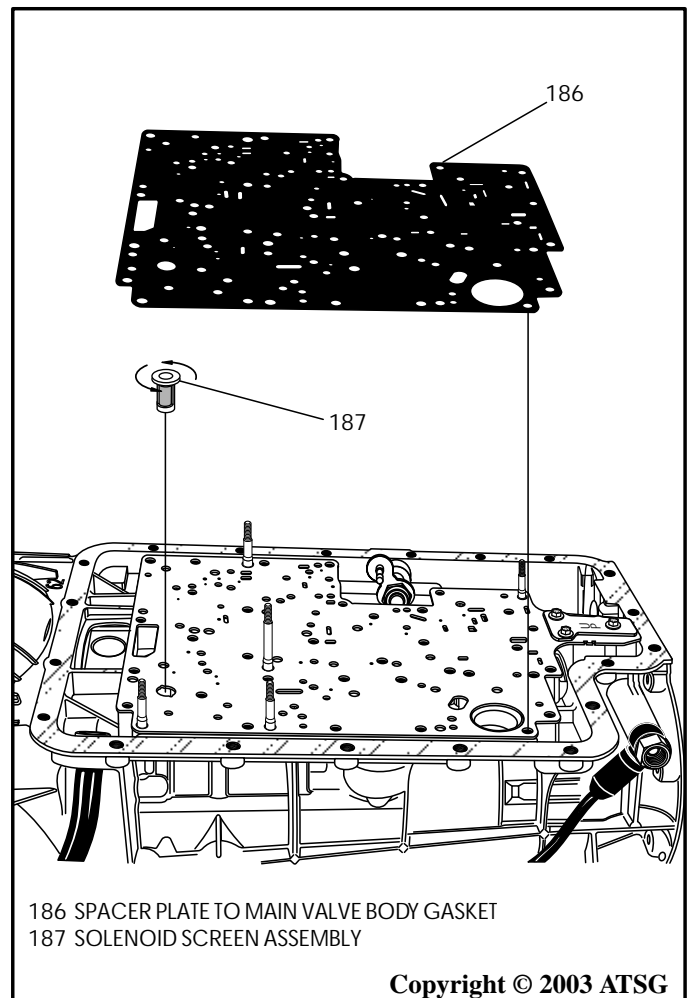

Figure 52
9. Remove and discard the spacer plate to main valve body gasket, as shown in Figure 52.
10. Remove the solenoid body screen from spacer plate, as shown in Figure 52, by rotating and lifting straight up.